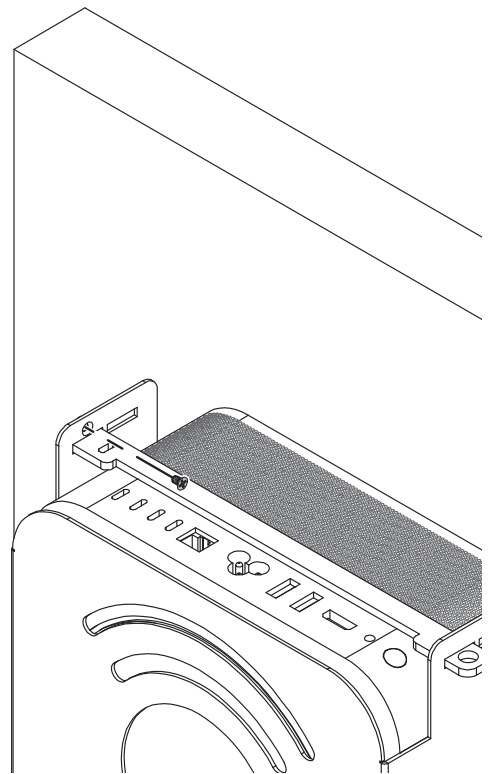

Figure 16
15. Secure the bar to the bracket with the Phillips screw you removed previously, or, for better security, secure the bar with the included T8 Torx screw using the included Torx screwdriver bit (Figure 16). Do not overtighten the screw.